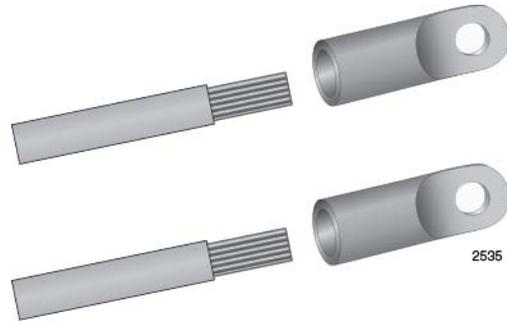

Figure 121. Attaching the Power Wires to the Power Terminal Lugs
2. Insert the power wires into the terminals included with the power supply and use a crimping tool to secure the wires to the terminals. See Figure 121 on page 183.